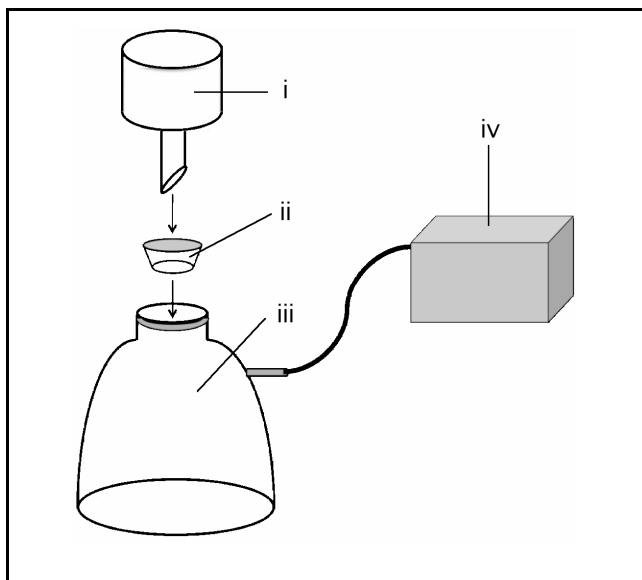

Fig. 1.3 Suction filtration equipment:
- (6) Set up the suction filtration equipment (see Fig. 1.3). Connect the suction flask to the diaphragm vacuum pump. Place a Büchner funnel fitted with a rubber adapter onto the suction flask. Place a glass microfiber filter sheet on the funnel.